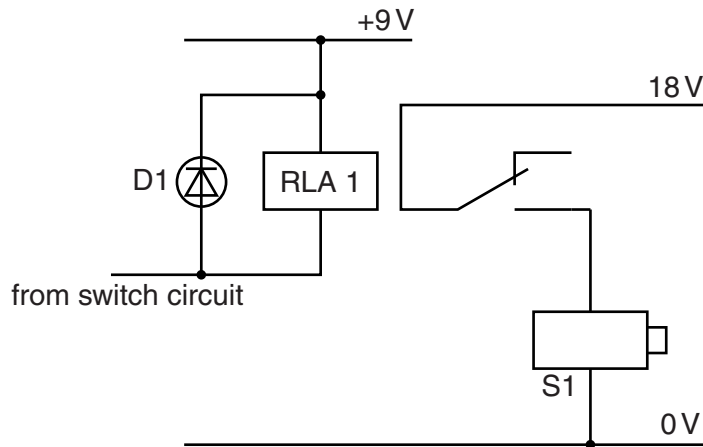

Fig. 17
- (b) The signal from the light-sensitive switch operates a relay (RLA1) with a solenoid (S1) connected to the output terminals. Fig. 17 shows the relay and solenoid circuit.